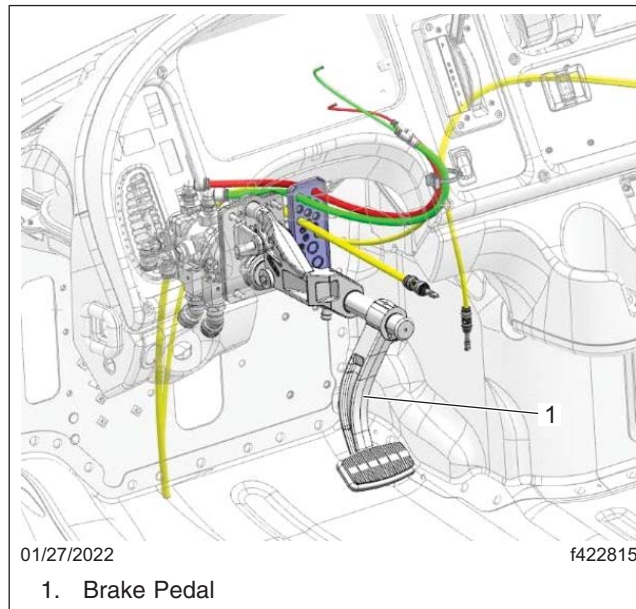

Fig. 3, Brake Pedal Assembly
3. To make removal easier, adjust the pedals out towards the driver's seat. See Fig. 3.